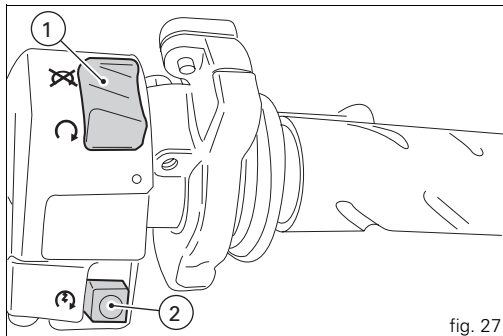

fig. 27
- 3) Make sure that the stop switch (1, fig. 27) is in the  RUN position, then press the starter button (2, fig. 27). This model has servo-assisted starting. To use the servo-assisted starting feature, press the start button (2) and release it immediately. When you press button (2) the starter motor runs automatically for a period of time that varies according to the engine temperature. The system disengages the starter motor as soon as the engine starts. If the engine fails to start, wait at least 2 seconds before pressing the start button (2) again.